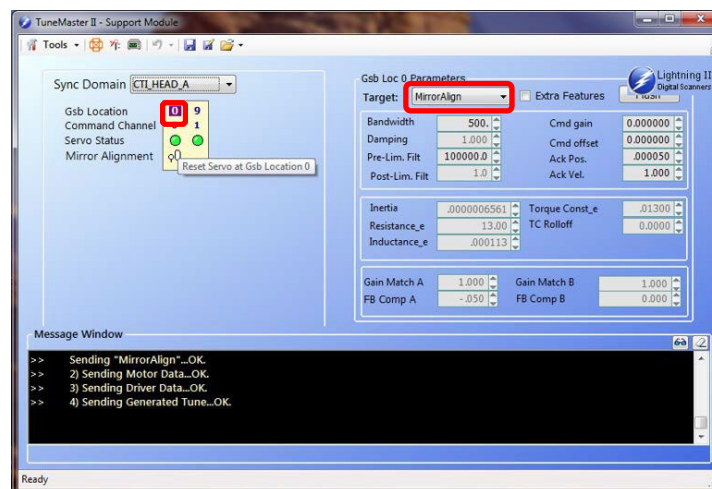

Figure 4 - Reset Servo to Restore SpeedX Tune
- You'll find that 'MirrorAlign' tune is now applied to the X axis. To restore the performance tune ('SpeedX' tune) to X axis for normal scanning operation, click on the 'Servo Status' green circle to reset the axis (Figure 4).